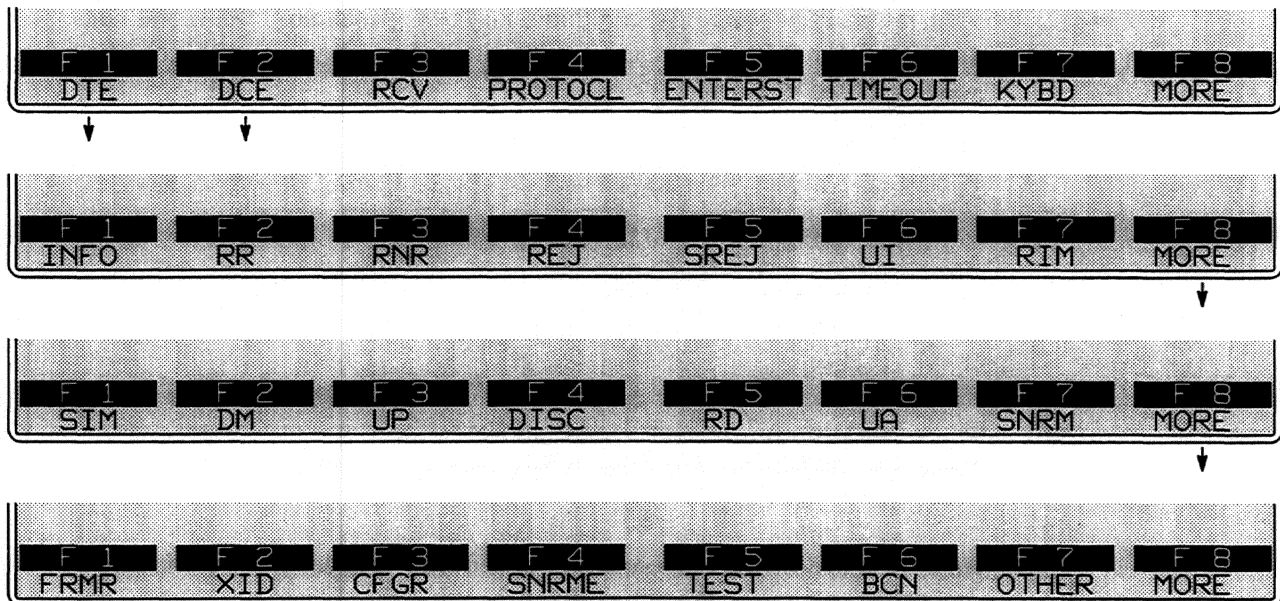

Figure 39-9 Frame types.
The softkeys for INFO, supervisory, unnumbered, and “other” frames are illustrated in Figure 39-9. Press a softkey to write one of these frame types to the Layer 2 spreadsheet. DTE or DCE followed by a frame–type mnemonic—DCE INFO, for example, or DTE SNRM—is a complete condition and will come true if a matching frame is monitored. Address, poll/final, and BCC conditions may be added to the simple frame mnemonic, but they are optional.
3. *Unnumbered frames.* Unnumbered frames generally assist in link-setup and takedown. These contain neither N(R) nor N(S) fields. Fifteen unnumbered-frame types are shown in Figure 39-9, from UI in the second rack of softkeys through BCN in the bottom rack.